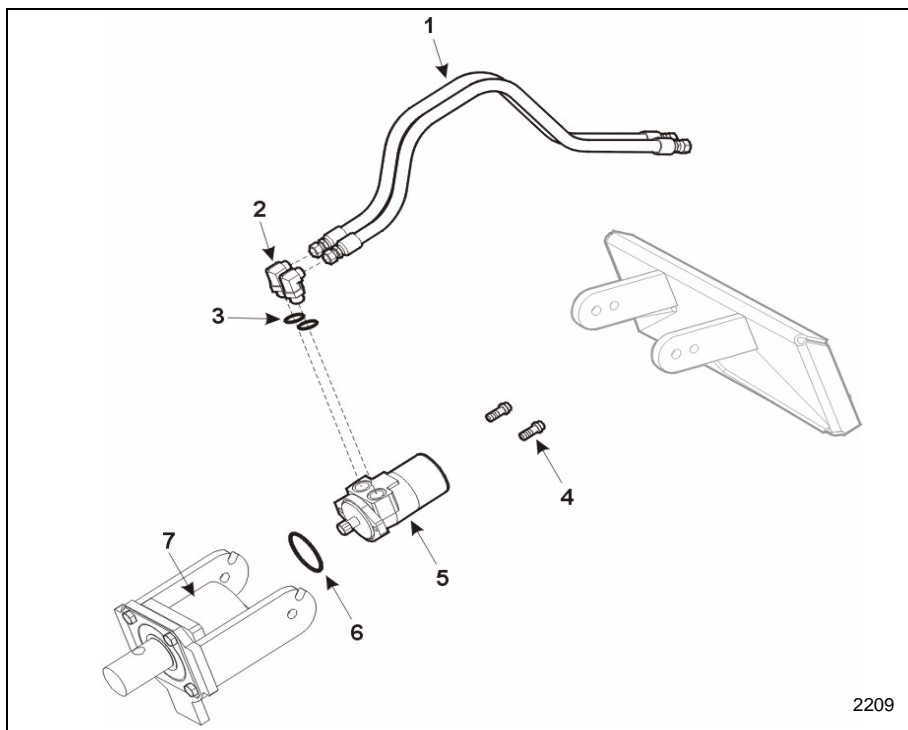

Figure 1-15 Hydraulic Drive Motor Removal
5. Remove the hydraulic motor (Item 5, **Figure 1-15**) from the top of the final gear drive (Item 7, **Figure 1-15**).
NOTE: Inspect the large O-ring (Item 6, **Figure 1-15**) for signs of wear or damage. If any is noted, replace the O-ring.